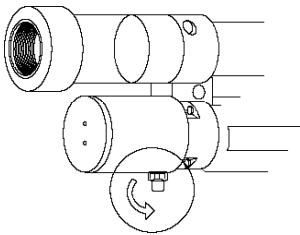

fig. 7a
- 1) Unscrew the cap of the emergency device (C) by accessing the gear below (fig. 7a);